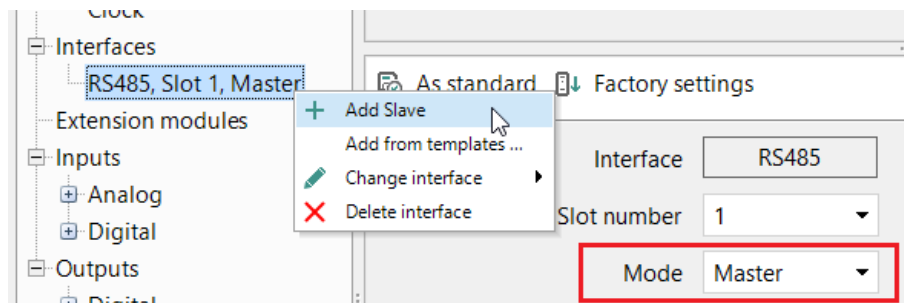

Fig. 2. Create master interface
5. Select *Interfaces > RS485, Slot 1* and change the mode from *Slave* to *Master* (Fig. 2).